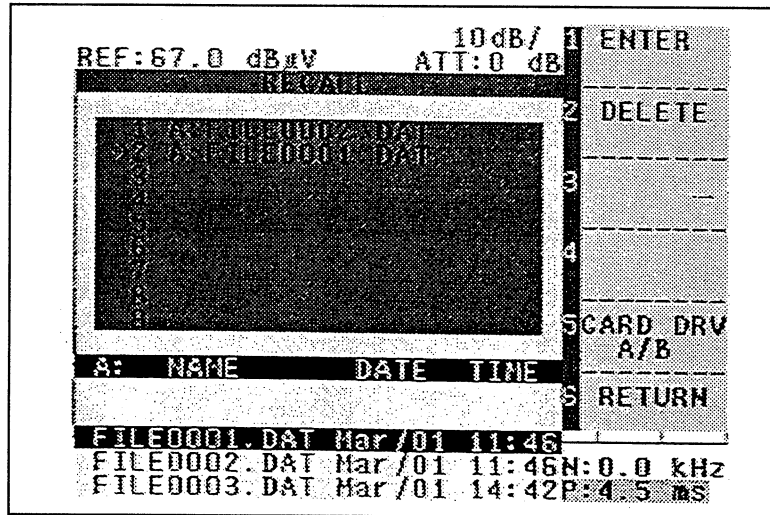

Figure 5-29 RECALL DEFINE menu screen
- ① Press   and the screen shown in Figure 5-29 will appear.
- ② Specify a register number with the  step keys and a file of memory card with the knob , and then press  to setup the file in the register number.
- ③ Press , ten key (any one setup register number from 1 to 9) in order and the assigned file setting conditions will be recalled.